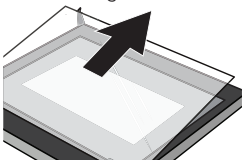

Figure 5
- 5. Push the glass into the position indicated by the arrow in Figure 5. Gently pull the glass out of the socket.